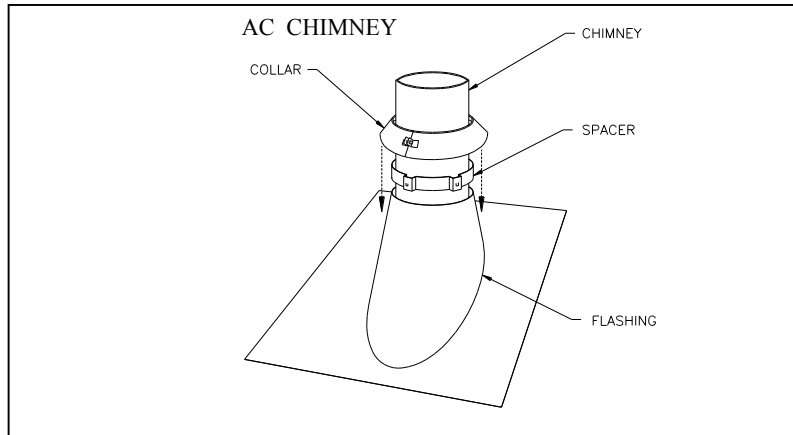

Figure 31
5. Then, put the roof flashing in place and seal the joint between the roof and the flashing with roofing pitch (see figures 31 & 32). For sloping roofs, place the flashing under the upper shingles and on top of the lower shingles. Nail the flashing to the roof, using roofing nails.